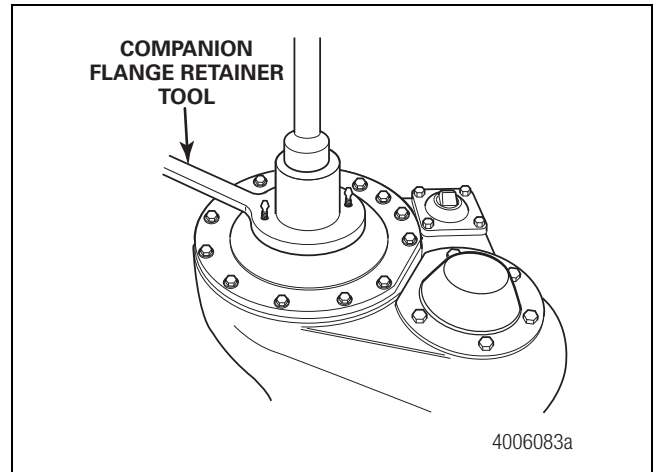

Figure 7.2
3. Use a companion flange retainer tool or other suitable tool to hold the companion flange in place. Figure 7.2.